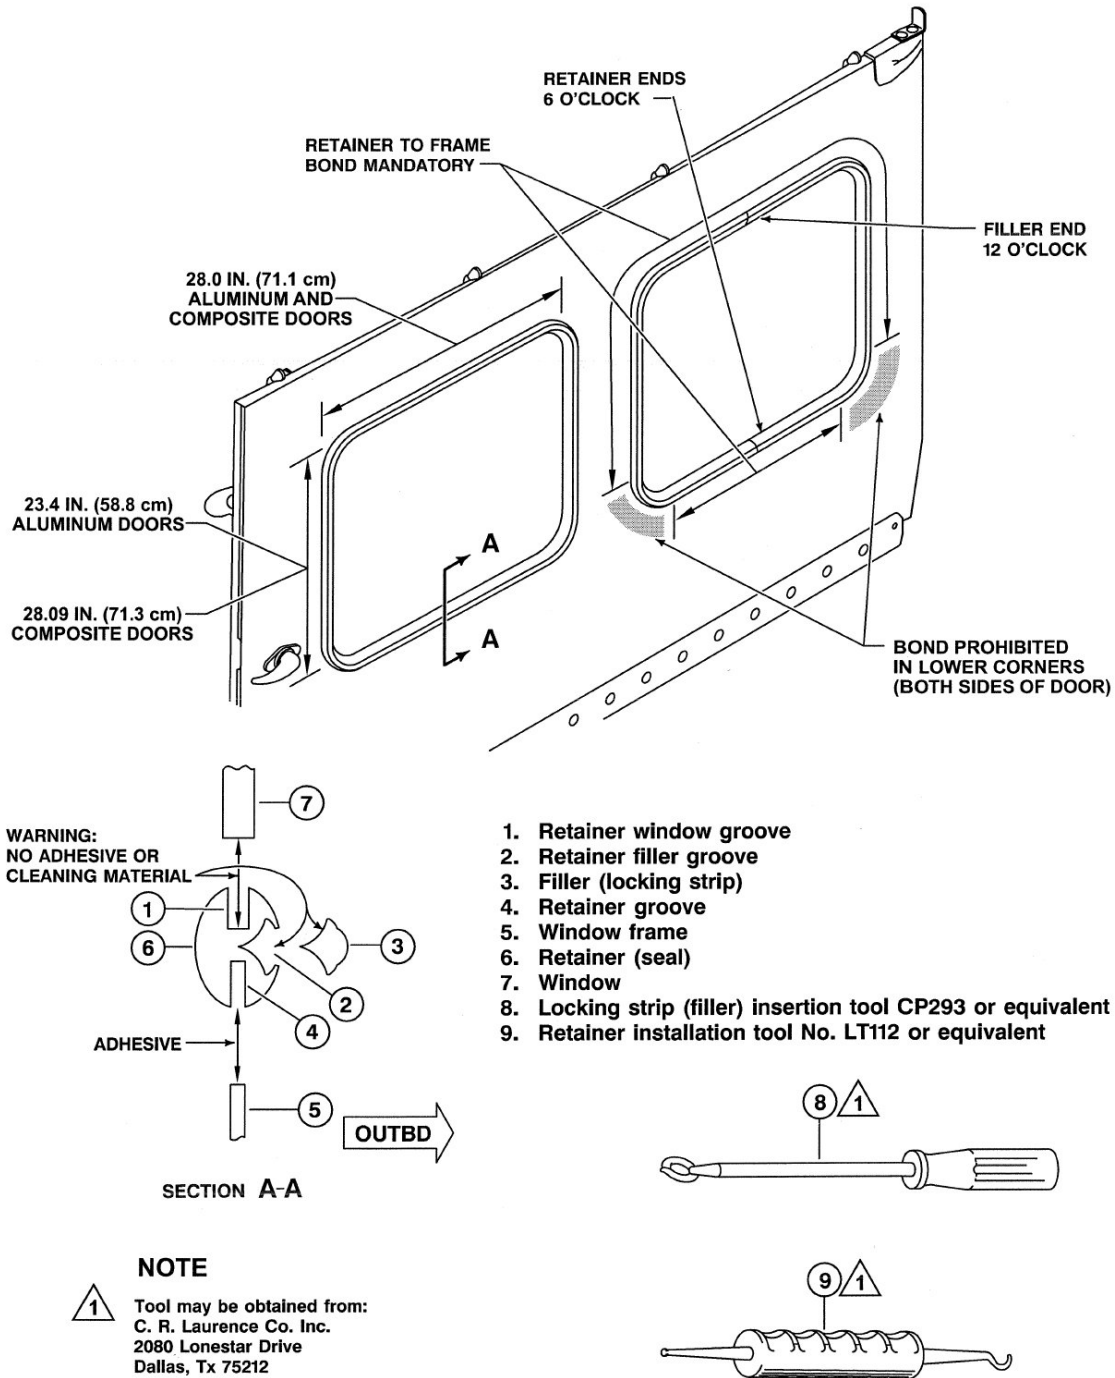

Figure 52-13. Passenger/Cargo Door Windows (Doors Equipped with Push-out Style Windows)
52.7.5.1.3 Remove filler (lock strip) (3, Figure 52-13) from retainer.